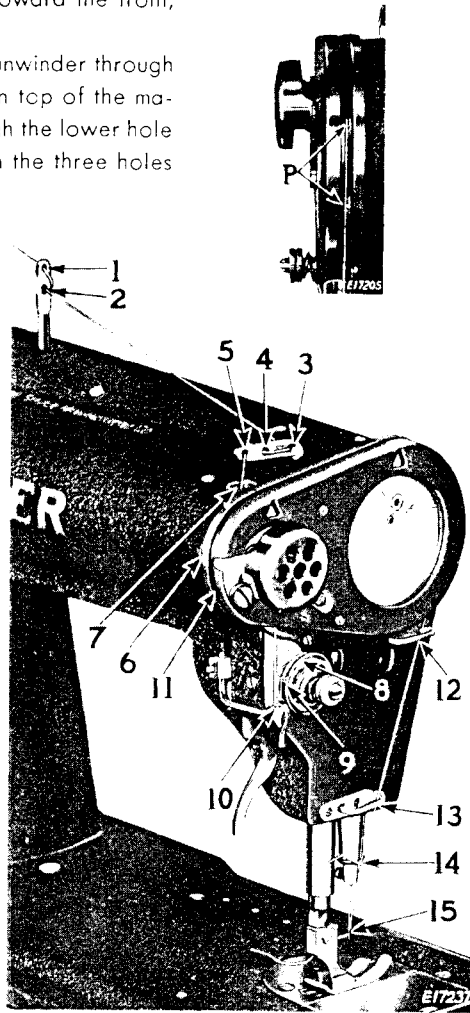

Fig. 11. Threading the Needle
(See Fig. 11)
Turn the balance wheel over from you until the two pins (P) in the rotary take-up are directly toward the front, as shown in Fig. 11 inset.
Stop the machine with the two pins (P, Fig. 11) in the rotary take-up directly toward the front, as in this position the take-up will not unthread the needle when the machine is started. Raise the presser foot, draw the work back and cut the threads close to the work.